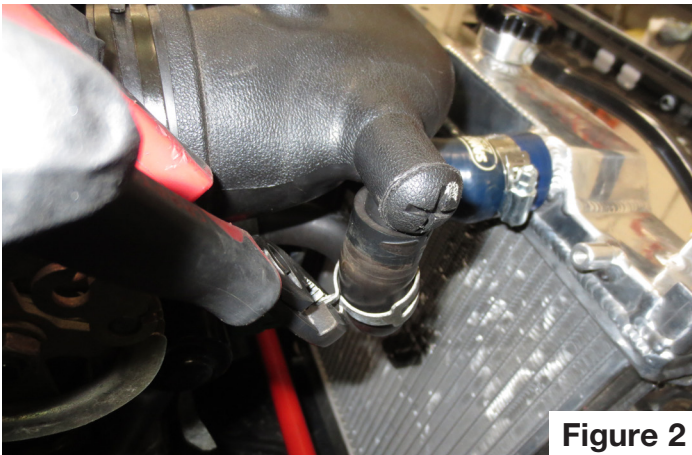

Figure 2
- 2) Remove the clamp retaining the hose to the Idle Air Control valve. Remove the IAC hose and PCV breather hose at the air tube. Loosen the screws retaining the air intake tube to the throttle body and air filter box. Remove the air intake tube. **Figure 2.**